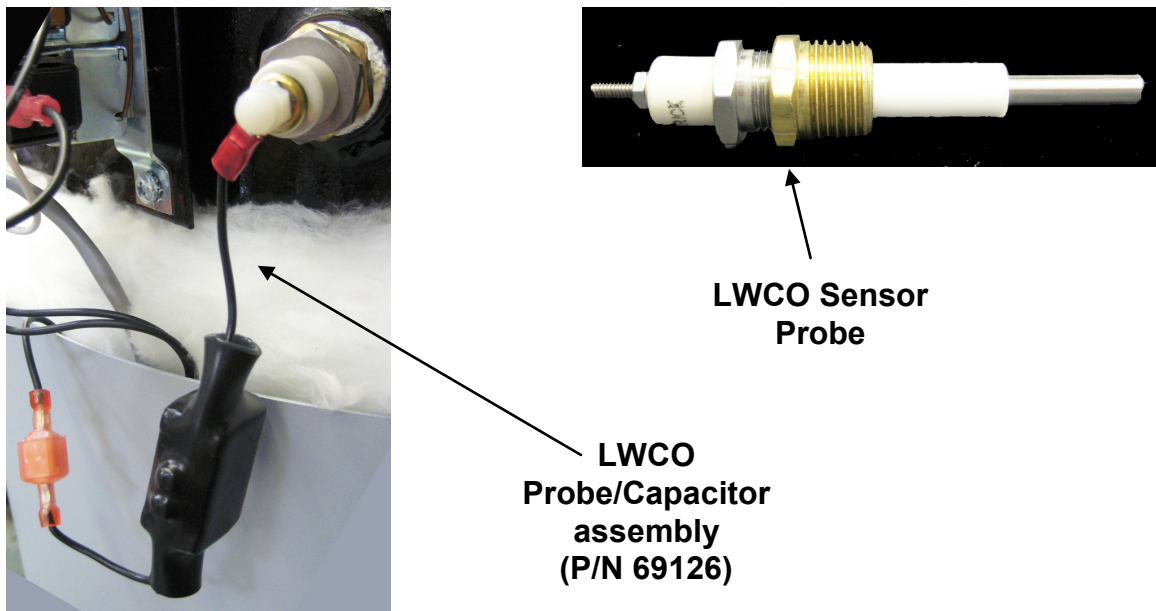

Figure 6.20 – Low Water Cutoff Probe and Brass Coupling
KC Heaters feature a Low Water Cutoff sensor probe (P/N 122843 as part of probe/capacitor assembly P/N 69126) which should be inspected and, if needed, cleaned every six months or replaced (if damaged) to ensure proper operation. See Figure 6.20.
2. The LWCO probe is installed near the top of the heat exchanger. Unscrew the brass coupling in which the probe is installed and remove the probe/coupling assembly from the recess. Take care to not damage the wire connected to the probe. See Figure 6.20 for a picture of the probe installed and uninstalled (shown with brass coupling attached and wire/hardware removed).